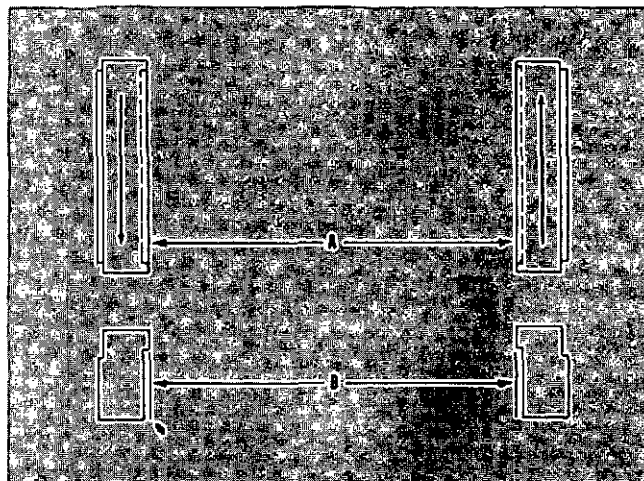

Fig. 1-10-2 N20174 Camshaft key markings
c. Install key and coat camshaft gear hub area with Lubriplate Type 130-AA or equivalent. Refer to Table 1-10-2 for key position, for key marking see Fig. 1-10-2.